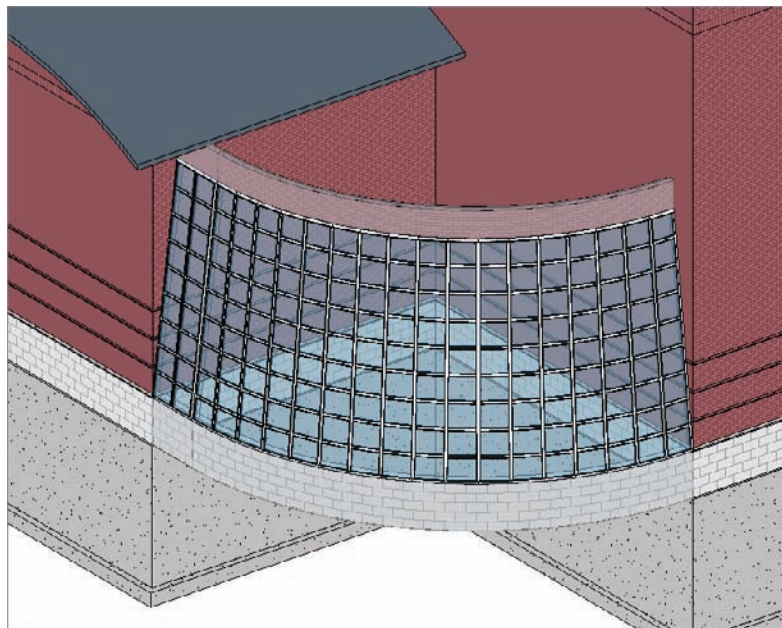

FIGURE 16.53 The completed system
7. Your wall system should look like Figure 16.53.